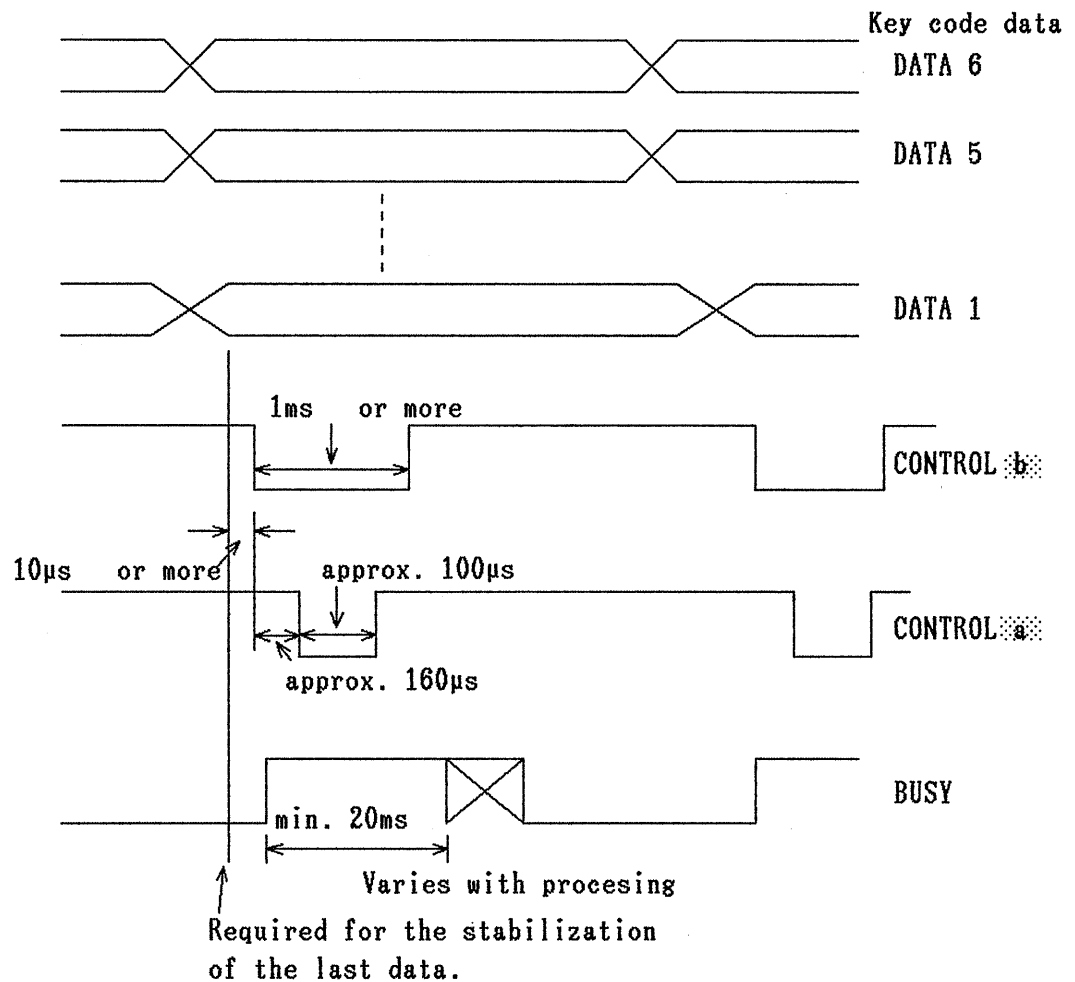

Figure 5-2
When the BUSY signal is "0", set the key code data (DATA1-6), and after the last data of DATA1-6 is established, wait for 10μs or longer. Then, set CONTROL **b** to "0" for 1ms or longer as shown in Figure 5-2.
- 2) Send CONTROL  which is set to "0" for 1ms or longer as shown in Figure 5-2 (input data timing).